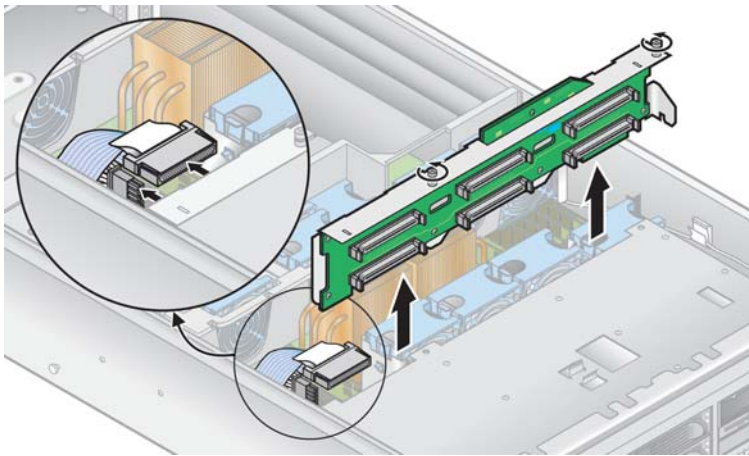

FIGURE 5-19 Removing the SCSI Backplane Assembly
- 4. Disconnect the two cables that connect to the rear side of the SCSI backplane circuit board (see FIGURE 5-19):**
- 5. Loosen the two captive screws that secure the SCSI backplane assembly to the chassis (see FIGURE 5-19).**